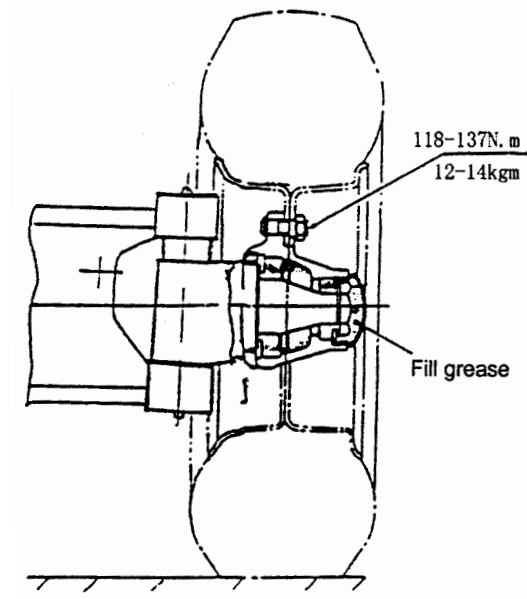

Fig5.5 Pre-load adjustment
(1) As shown in Fig5.5, fill up the chamber formed by wheel hubs, wheel hub bearing and wheel hub covers with lubricating grease. Coat the lips of the oil seals with lubricating grease.
(2) Press the hub bearing into the hub and fit the hub on the knuckle shaft.
(3) Fit a flat washer and tighten a castle nut with torque of 206~235N.m and loosen it and then tighten it again with torque of 9.8N.m.
(4) To ensure firm installation of the hub, slightly knock at it with a wooden hammer and in the meantime, rotate the hub for 3~4 turns.
(5) Tighten the castle nut and align one of its notches with a hole drilled in the steering knuckle.
(6) Again slightly knock at the hub with a wooden hammer and in this time, rotate